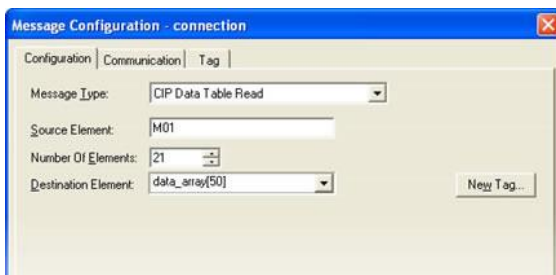

Figure 54: MSG Instruction Configuration
- b) Click the message configuration button ("...") in the MSG instruction. The "Message Configuration" window will open. Refer to Figure 54.